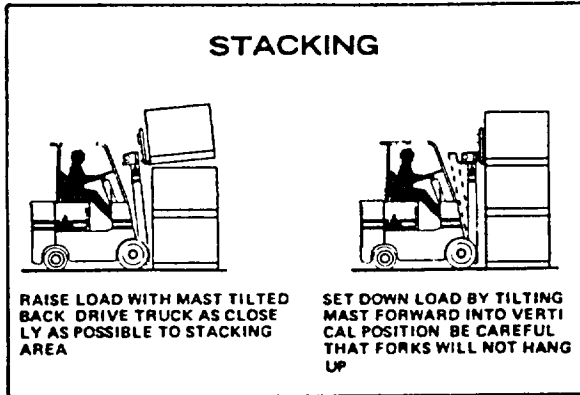

Figure 4-12. Stacking and Positioning
- Check all low-hanging obstructions. Raise the load with the mast tilted slightly back (Fig 4-12).